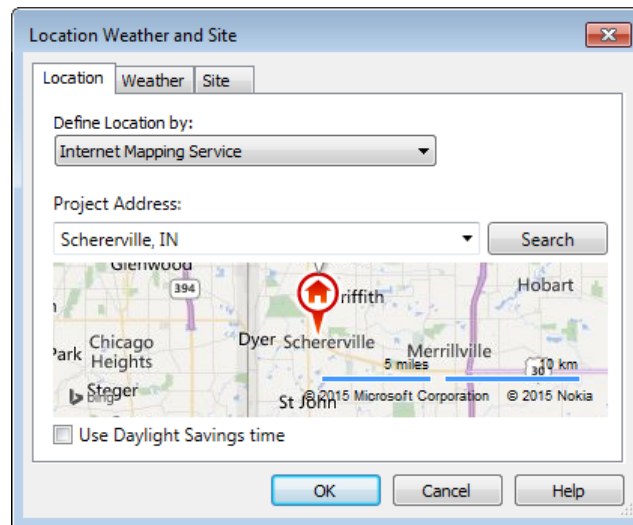

Figure 2-32 The **Location Weather and Site** dialog box
3. In the **Location** tab of the **Location Weather and Site** dialog box, enter **Schererville, IN** in the **Project Address** edit box and then choose the **Search** button; the **Bing Map** browser displayed under the **Project Address** edit box shows the desired location in the map, as shown in Figure 2-32.